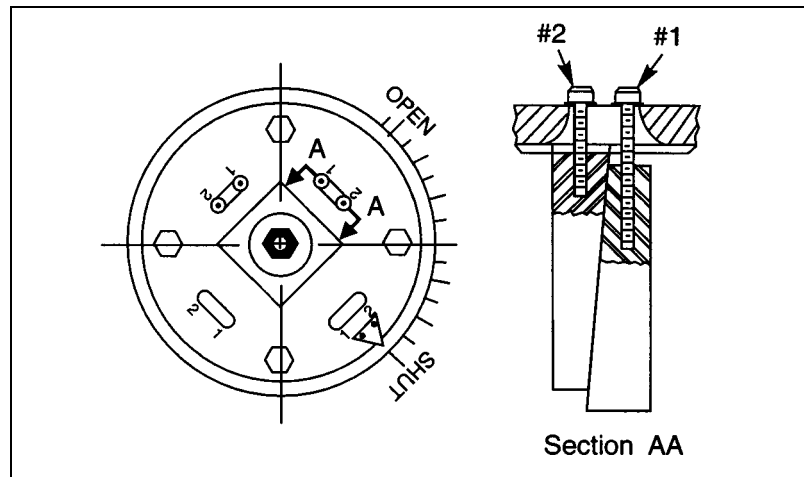

Figure 4— 2050 Valve Key and Lockscrew Arrangement
- a. Loosen the #1 lockscrews about 6 to 8 turns. Loosen the #2 lockscrews about 3 turns. See Figure 4.
7. If the valve is a 2050, tighten the #2 lockscrews and then the #1 lockscrews to hold the keys in place; if the valve is a 0350 – 1850, go to step 8. See Figure 4
- a. Loosen lockscrews #1 about 6 to 8 turns and loosen lockscrews #2 about 3 turns. See Figure 4.